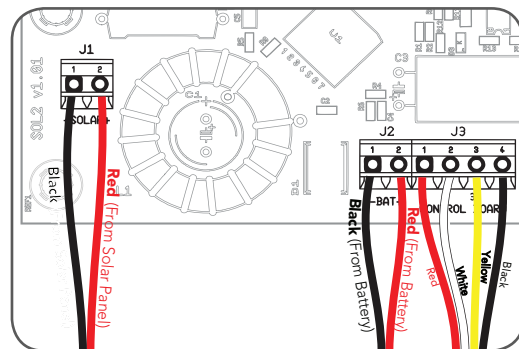

Fig 52
- Connect the **red wire** to the Charger Board's "SOLAR+" connector, and the **black wire** to the "-SOLAR" connector (**Fig. 52**).
- Connect the **red wire** to the Charger Board's "BAT+" connector, and the **black wire** to the "-BAT" connector (**Fig. 52**).